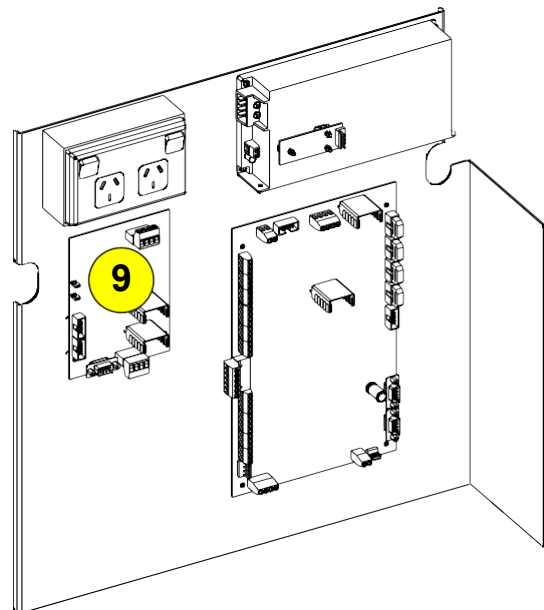

Figure 3c – 15U Gear Plate Locations
- Flat on the gear plate – see Figure 3c. Use this position if the other choices are not available.